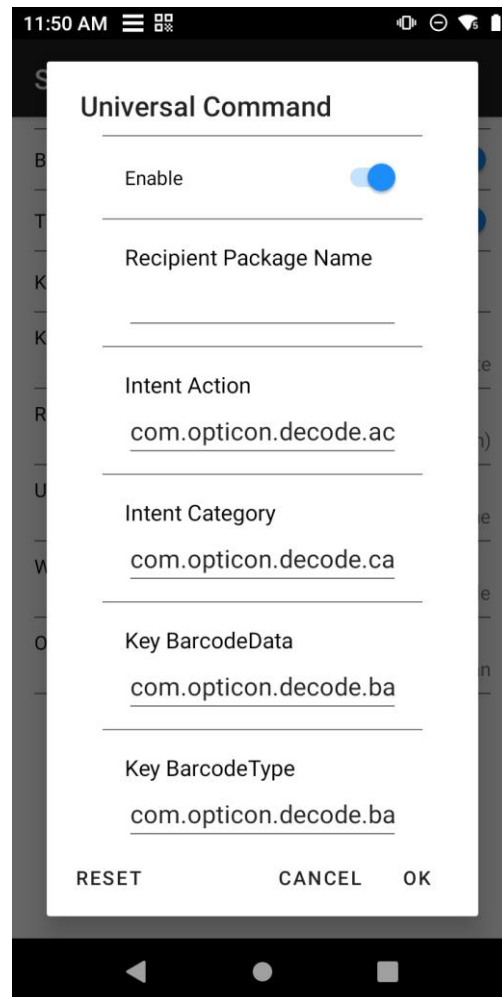

Figure 12-6: The *Wedge* settings where the *Wedge* is enabled and the other settings are set to the default.
1. In the *ScannerService* settings, enable the *Wedge* option as shown in Figure 12-6. This allows the scanned data to be forwarded to OptiConnect as keyboard input.
2. Make sure all other wedge settings are set to their default values as in Figure 12-6.